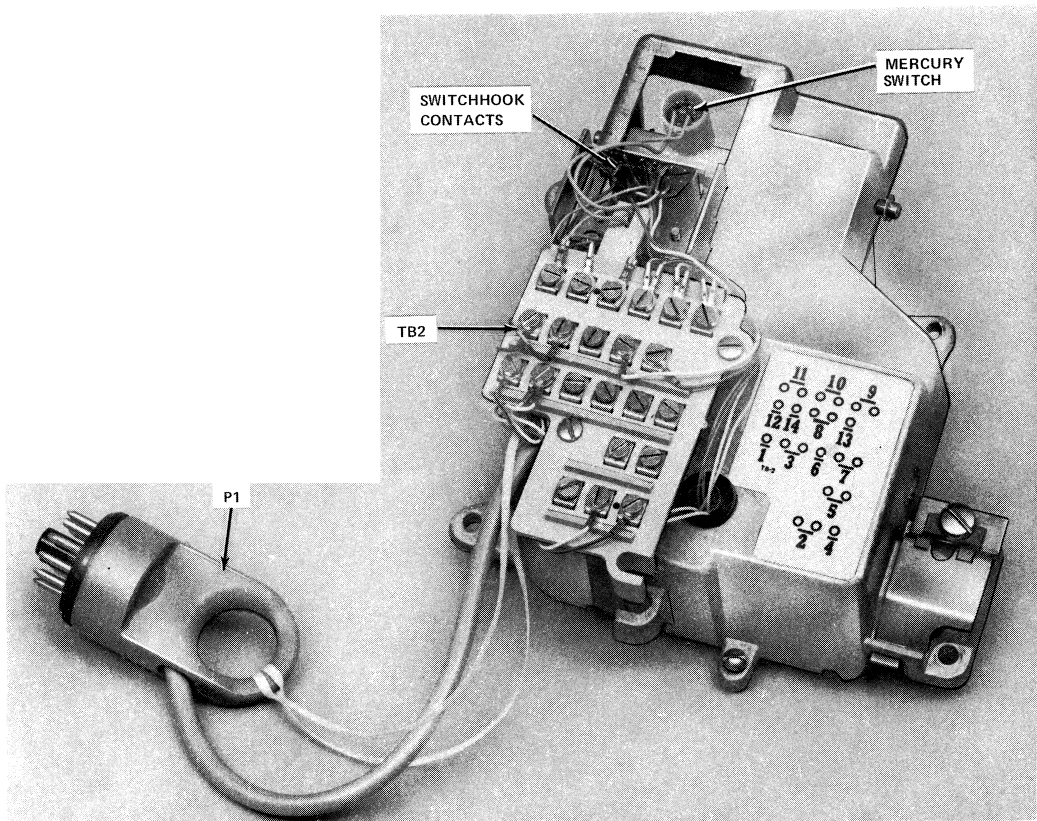

Fig. 7—Typical Coin Dial Unit
- (1) **B Relay**—The B relay contacts close during totalizer readout and place a capacitor across the speech circuit to prevent the customer from hearing coin signals.
- (2) **Coin Signal Oscillator**—Generates a dual frequency signal, controlled by totalizer readout indicating to the ACTS receiver or operator what value of coin has been deposited.
- (3) **A Relay**—Provides ground lifting in DTF mode and controls totalizer readout in CF mode.
E. **Coin Dial Unit (Fig. 7)**
2.13 The dial and housing assembly contains the switchhook contacts and rotary or TOUCH-TONE dial. The switchhook contacts are operated as the handset is lifted. Contacts SH1, SH2, and SH4 perform the same functions in both CF and DTF modes. SH3 differs as described in (3).